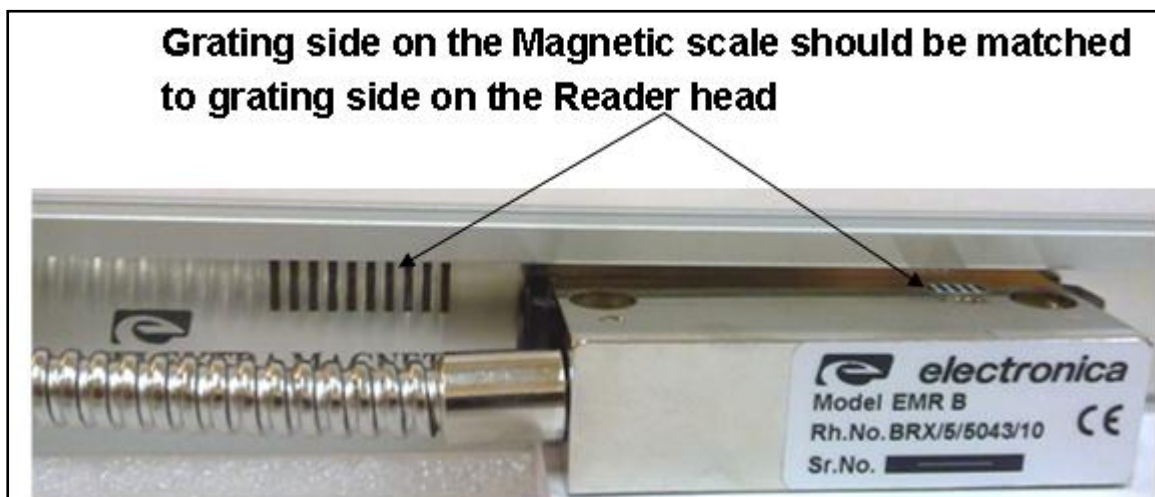

Figure 8
4. The grating symbol on the scale should be matched to the grating symbol on the reader head. Refer Figure 8.